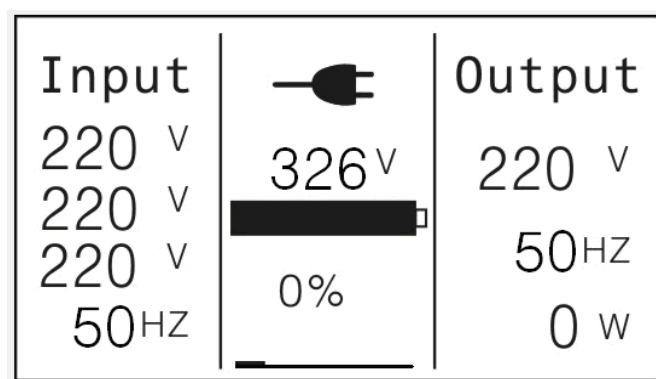

Fig. 4-3
- 4) A few seconds later, the UPS turns into Line mode (Fig. 4-3). If the utility power is abnormal, the UPS will operate in Battery mode without output interruption of the UPS.